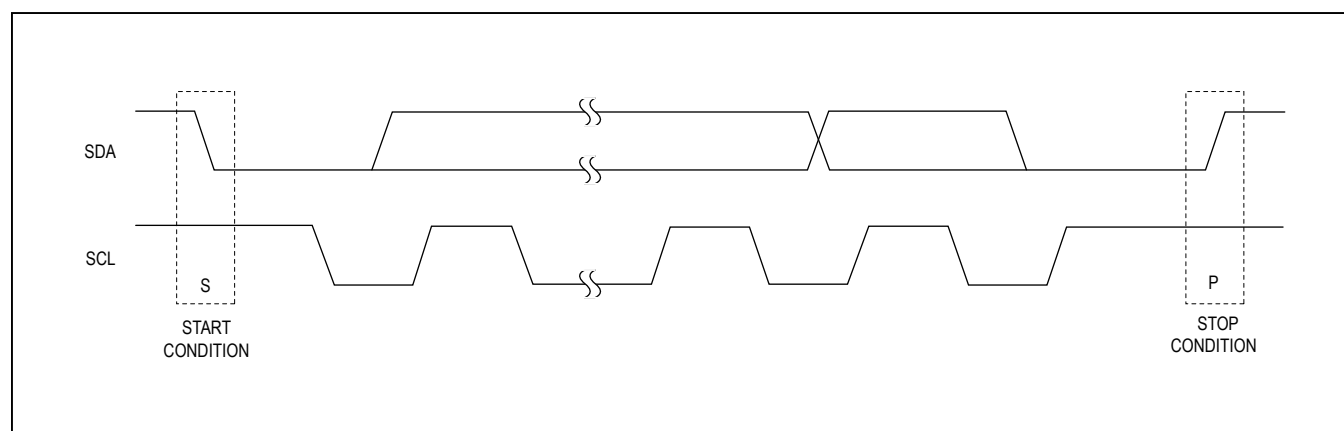

Figure 27. START and STOP Conditions
Both SCL and SDA remain high when the interface is not busy. A master signals the beginning of a transmission with a START (S) condition by transitioning SDA from high to low while SCL is high (Figure 27). When the master has finished communicating with the slave, it issues a STOP (P) condition by transitioning SDA from low to high while SCL is high.